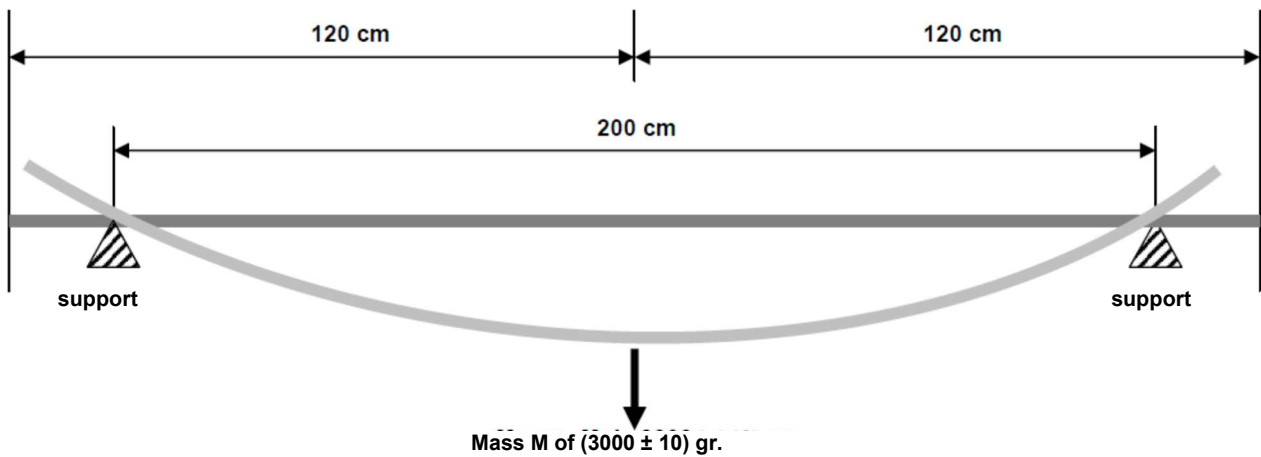

Figure 1
- When loaded without shock with a mass of 3 kg as in figure 1, the probe should not break or leave permanent deformations and should not go out of the supports or hooks the supports (with certain models, the locking system or the metallic point are prominent and they prevent the exit of the supports).